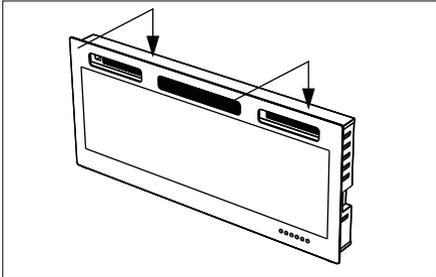
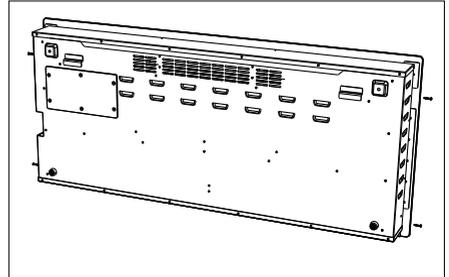

fig.3
fig.4
3. Attach the glass to the fireplace and lock it with the ST4X14 screws.(fig.3, fig.4)
8. Attach the glass to the fireplace and lock it with the ST4X14 screws.(fig.3, fig.4)
3. Attach the glass to the fireplace and lock the ST4X14 screws.(fig.3, fig.4)